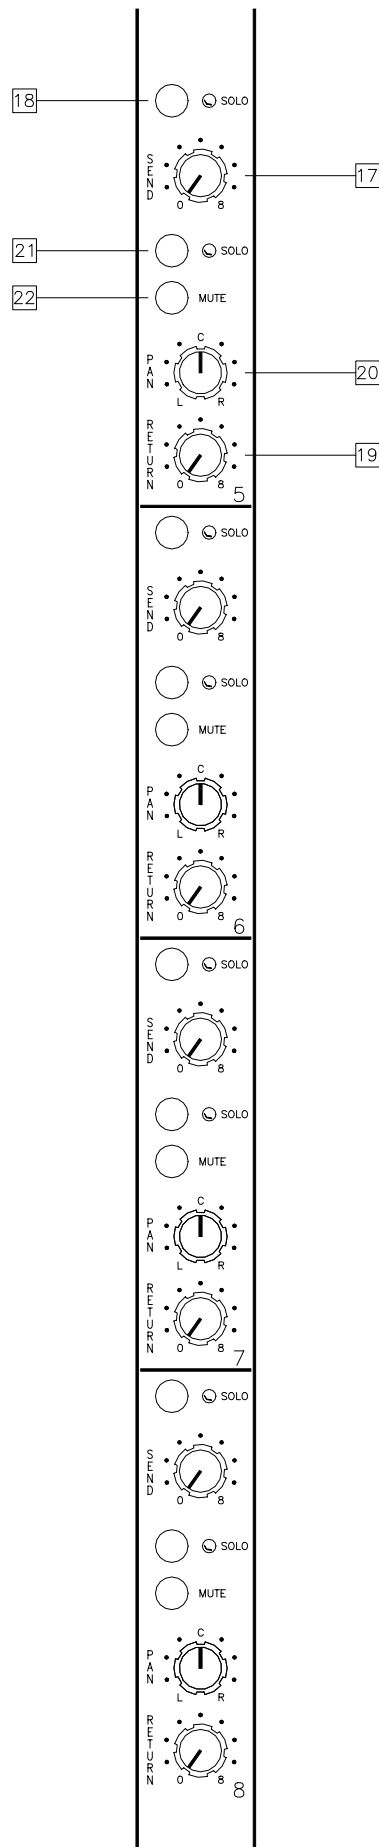

Figure 4. Effects Send and Return Channel
Refer to Figure 4 for location of items 17 thru 22.